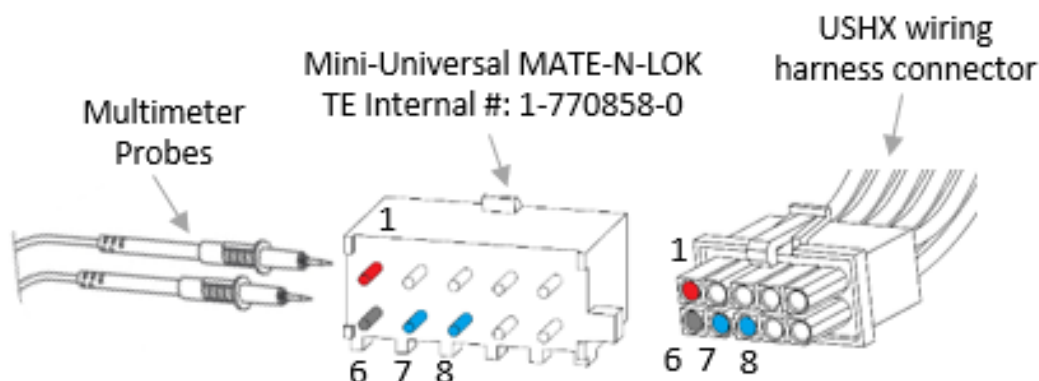

Figure 4-4: Probe the Mini-Universal MATE-N-LOK (connected to USHX wiring harness) to Measure Valve Resistance and Voltage Input
- Procure and use a Mini-Universal MATE-N-LOK (TE Internal # 1-770858-0) mating connector and place it onto the wiring harness connector as shown in **Figure 4-4**